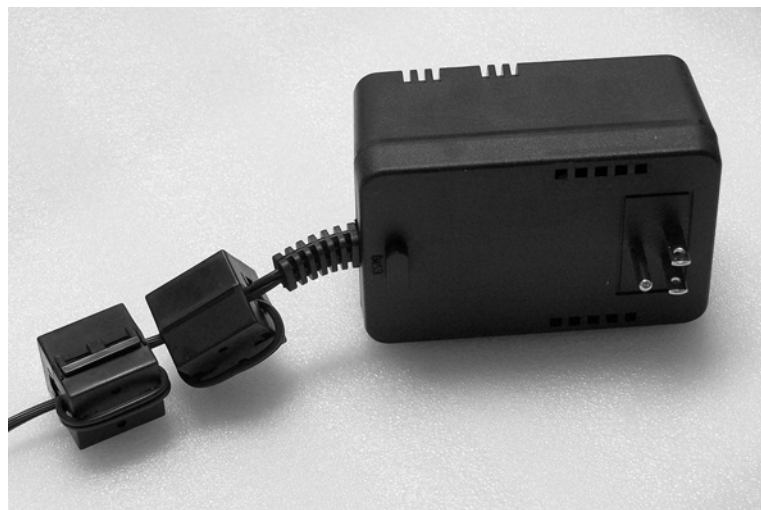

Figure 2. 2 ferrite clamps locked on cable.
5. Press the ferrite clamp around the cable until the latch at one end of the clamp snaps over the ears on the other end of the clamp. (See Figure 2.)